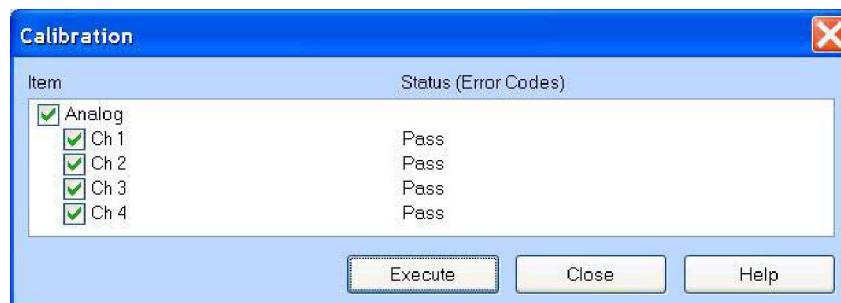

Figure 31: Calibration dialog box
2. From the menu bar, select **System** and then select **Calibration...**; the Calibration dialog box appears. (See Figure 31.)